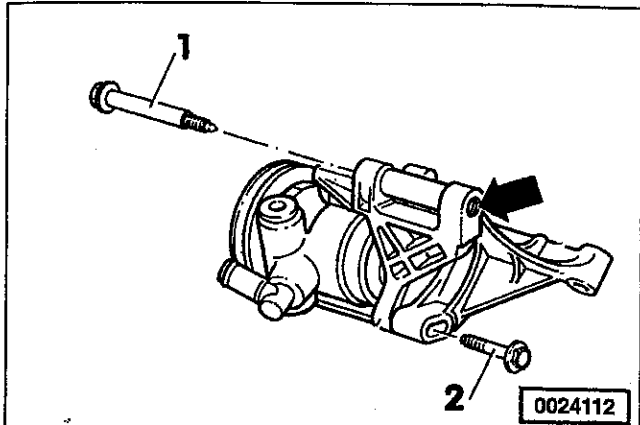

Fig. 20. Before installing pump, make sure pivot bolts (1 and 2) are loose. Threaded bushing shown at arrow.
5. Install pump with brackets to the engine block and mounting bracket. Install adjusting bracket to engine block and pump. Do not tighten pivot bracket bolts at this time. See Fig. 20.